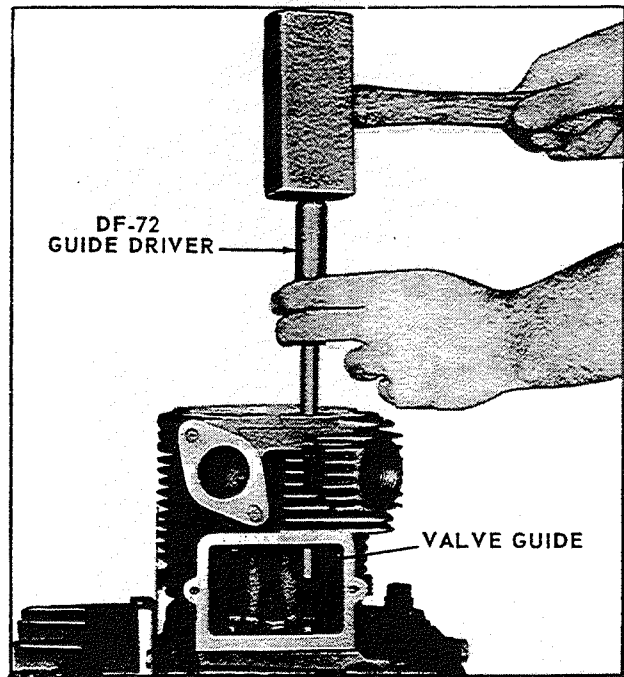

Fig. 28
*Before grinding valves*, inspect valve guides for possible replacement. Refer to Fig. 28 for proper
#### VALVE GUIDES (Fig. 28)
When valve stem clearance becomes excessive, the valve guides should be driven out, as illustrated in Fig. 28, and new guides pressed in place. Use Wisconsin Motor *DF-72* valve guide driver. In reassembly, press guides into valve ports using the same driver tool. Refer to Fig. 27 for clearance specifications and proper assembly.